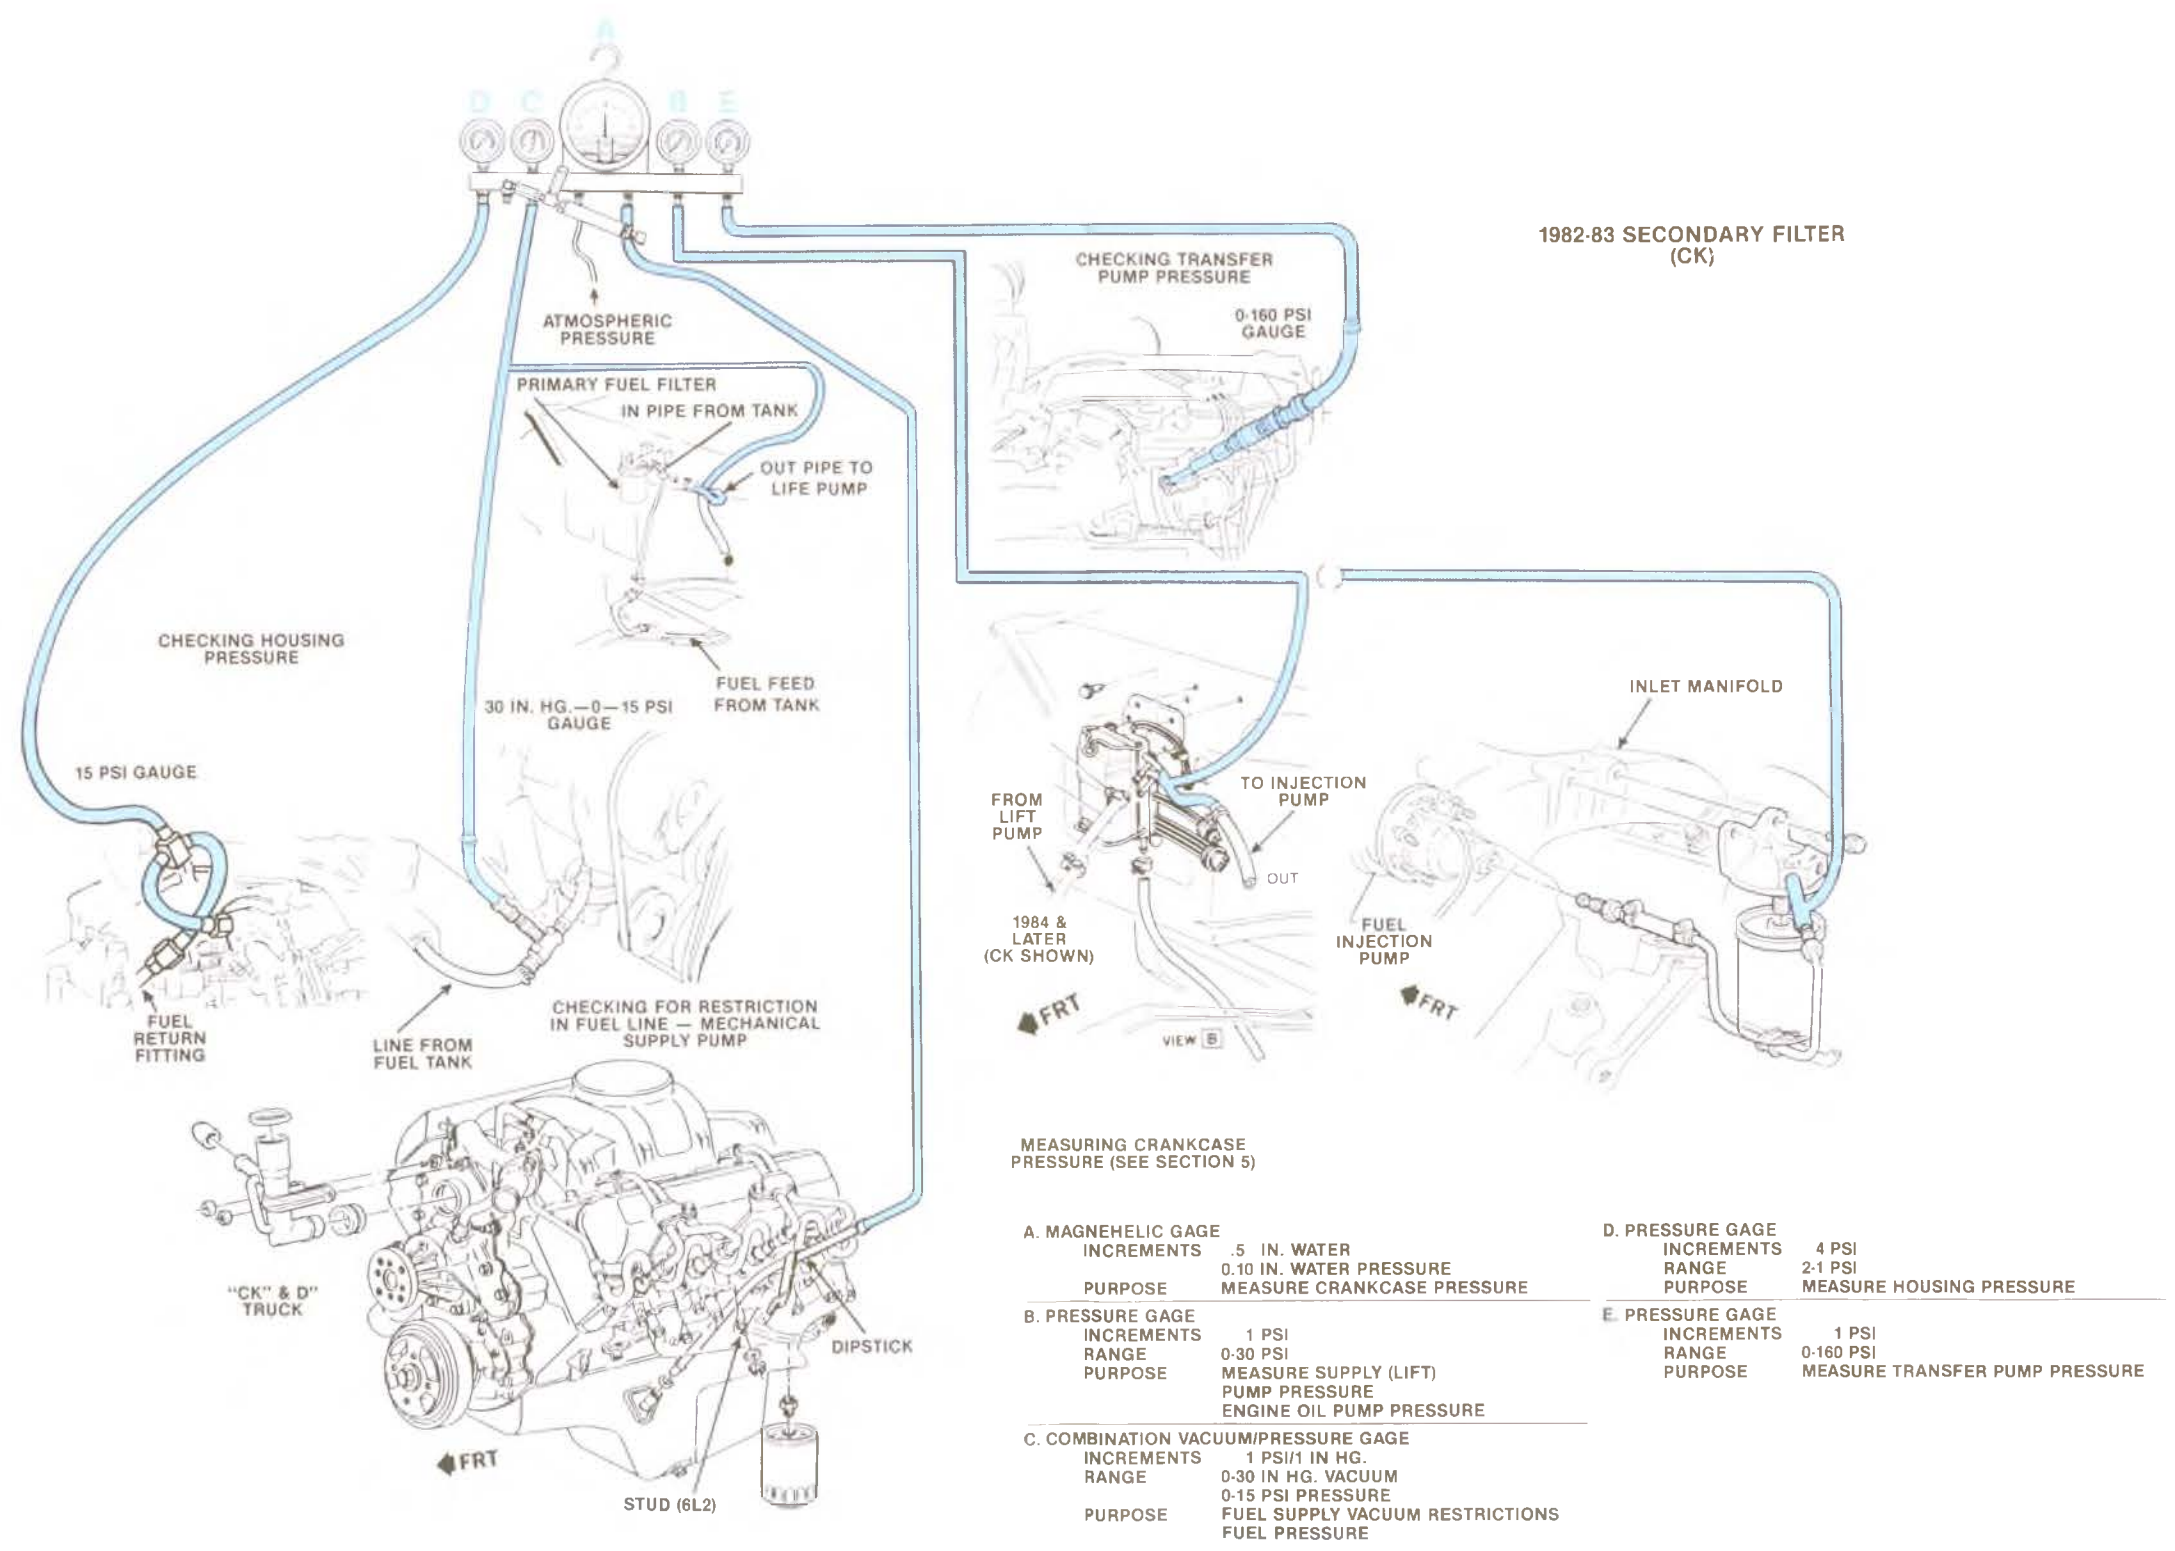

Figure 7-7, Gage Connections for Diagnosis Procedure.
- Open fold-out page, Figure 7-7, Gage Connections for Diagnosis Procedure.